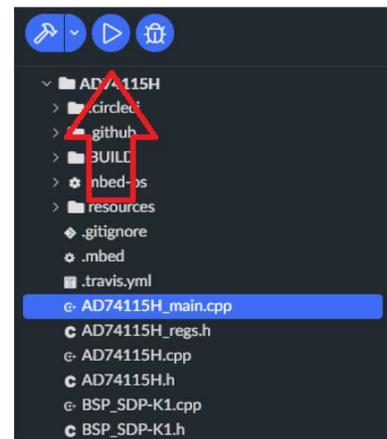

Figure 17. Download the Code to the SDP-K1 Board
12. Download the code to the SDP-K1 board (see **Figure 17**).